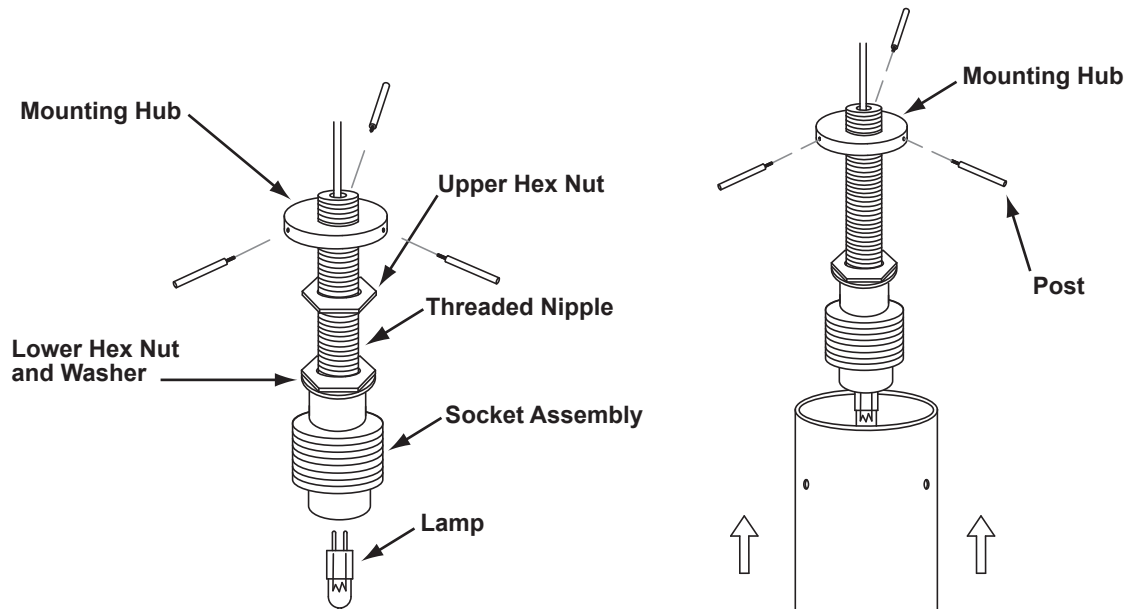

Figure 1
1. Begin by threading the Threaded Nipple into the top of the Socket Assembly and secure using the Lower Hex Nut and Washer provided. Then install the Mounting Hub on the Threaded Nipple until it rests on the Upper Hex Nut provided. See figure 1.
While holding the Lampholder secure, hold the Lamp by the base, just above the contacts, and firmly push the lamp into the socket. See figure 1.